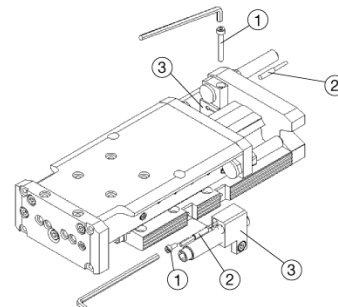

fig 3
Adjustment of limit switch (ES), fig 3
1. Loosen clamping screw (1).
2. Slide limit switch (2) from rear into stop block guide (3) up as far as stop.
3. Retighten clamping screw (1).
4. Connect limit switch (2) to electricity supply.